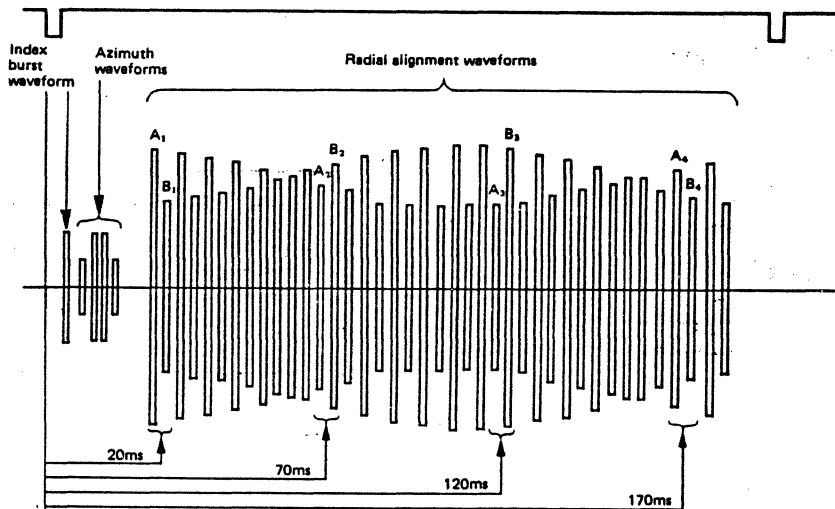

Fig. 9.4 Alignment Waveform (DAD)
- (4) Watch the output waveforms for sides 0 and 1. They should appear as shown in Fig. 9.4.
- (5) Measure the timing levels A1 to A4 and B1 to B4 in Fig. 9.4, and calculate the lobe ratio from the following formulas.